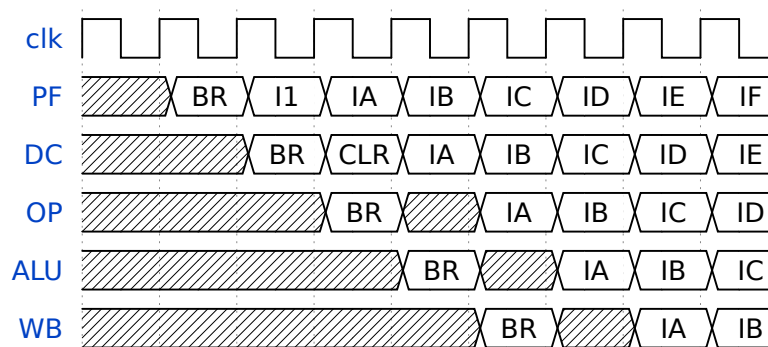

Figure 2.5: An expedited branch costs a single stall cycle
The decode stage can handle the `ADD $X,PC`, `LDI $X,PC`, and `LOD (PC),PC` instructions specially, however, when `EARLY_BRANCHING` is enabled. These instructions, when not conditioned on the flags, can execute with only a single stall cycle (two for the `LOD(PC),PC` instruction), such as is shown in Fig. 2.5. In this example, `BR` is a branch always taken, `I1` is the instruction following the branch in memory, while `IA` is the first instruction at the branch address. (`CLR` denotes a clear-pipeline operation, and does not represent any instruction.)